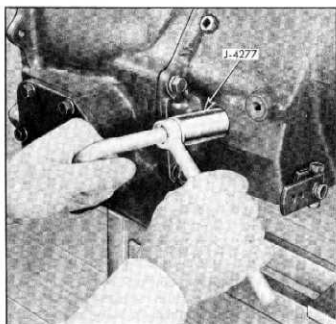

Fig. 138—Adjusting Low Servo
11. Tighten low servo adjusting screw, using tool J-4277, down tight and back off three complete turns and tighten lock nut (fig. 138). Replace adjusting screw cap.